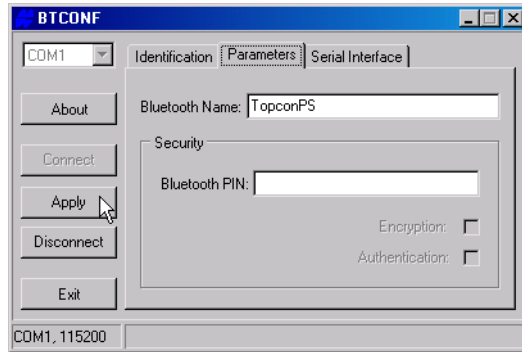

Figure 2-30. BTCONF Parameters Tab
5. Click the **Parameters** tab (Figure 2-30). The Parameters tab sets identifying and security information for your Bluetooth module. The security section allows you to set data security and unauthorized access parameters for the Bluetooth module.
6. Enter up to 14 characters to set a unique name for the Bluetooth module (Figure 2-30), and click **Apply**.